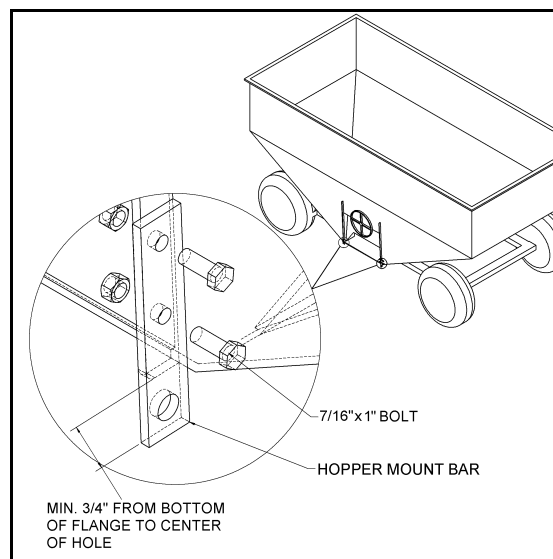

Figure 3.2 Option B
- Position hopper mount bar as shown in Figure 3.2. There should be a minimum of 3/4" distance from center of hole to bottom of wagon flange.